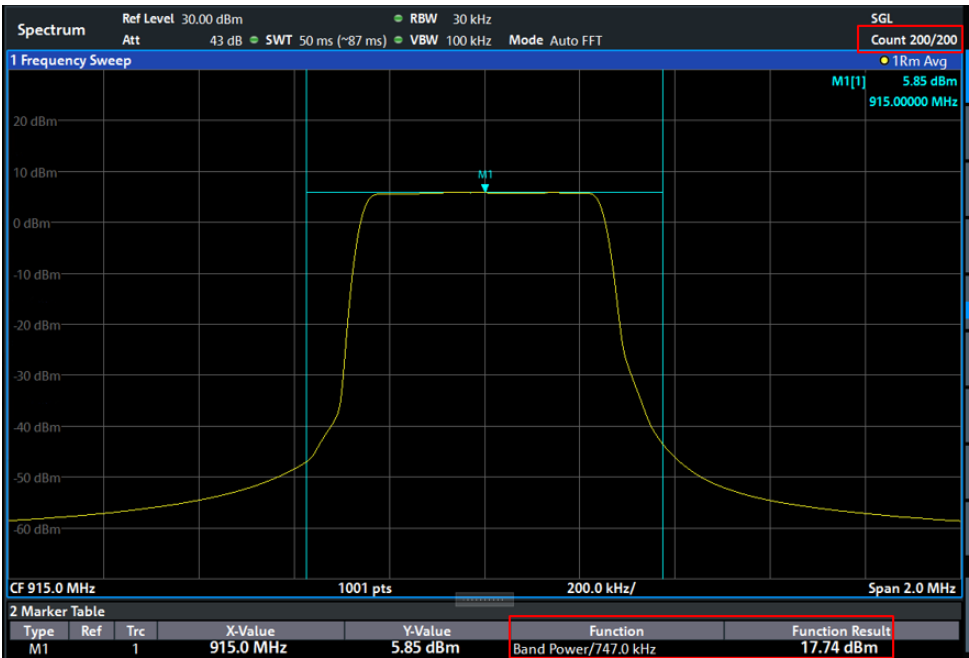

Figure 2-7: Emission output power measurement with SF = 12
19. Press the *Run Single* key and wait until the number of averaging operations set under *Average Count* have been performed. The result of the measurement is shown in Figure 2-7.